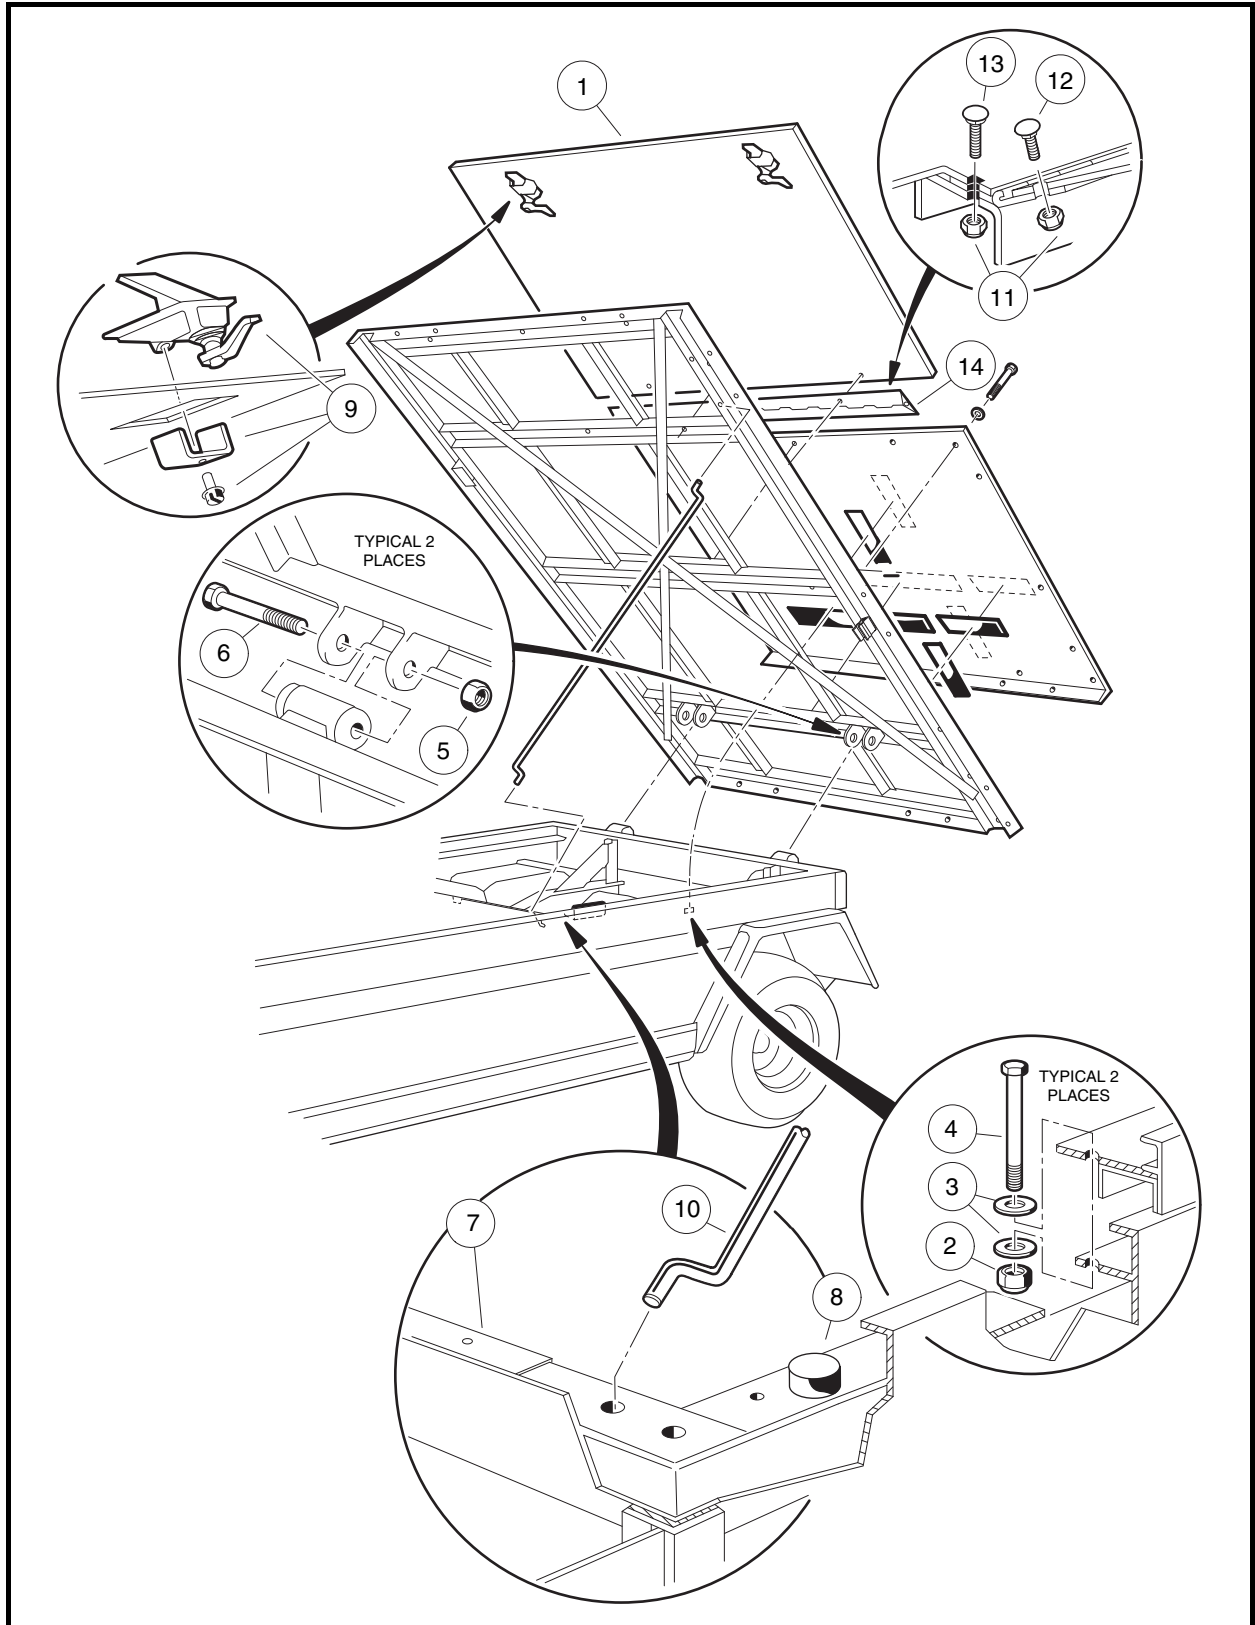
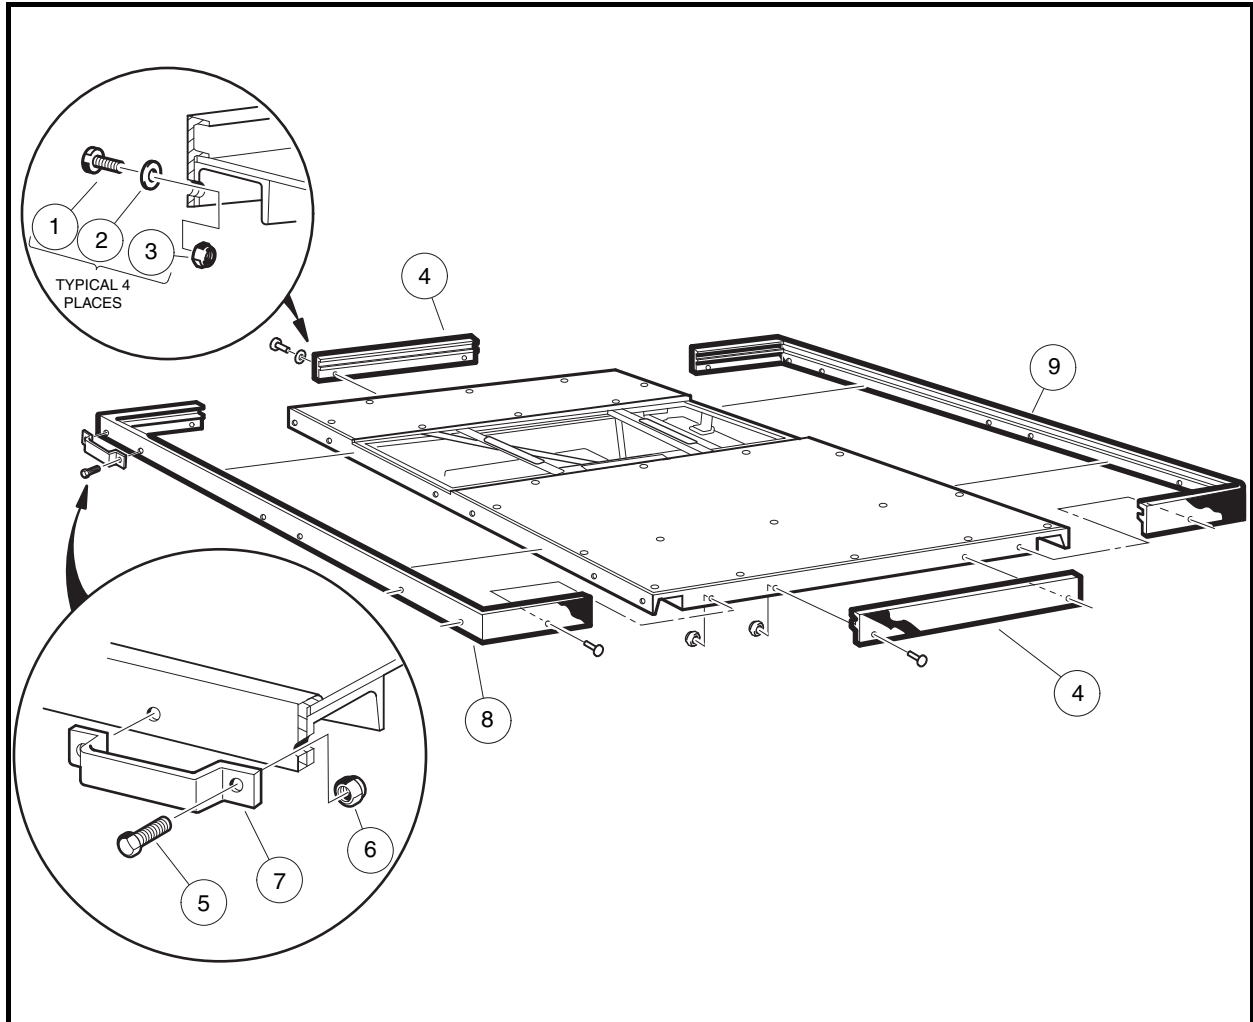

Figure 4-3 Flat Bed – Turf 6 and Carryall 6
Figure 4-4 Flat Bed Trim – Turf 6 and Carryall 6
1. Open access door in bed (1) and remove two lock nuts (2), four flat washers (3), and two 1/4 x 4 bolts (4). Close and latch access door (**Figure 4-3, Page 4-9**).
2. Remove two lock nuts (5) from left and right flat bed hinge assemblies.
3. Remove two 3/8 x 3 -3/8 bolts (6). Lift bed from vehicle.
1. Place bed on vehicle with bed front edge 1 inch (2.5 cm) from seat back support panel (7) and open access door (1) (**Figure 4-3, Page 4-9**).
2. Raise rear edge of bed 6 inches from vehicle frame and position bed so the left and right hand bed supports are resting on the support bumpers (8).
4. Start the bolts (6) into left and right hinge assemblies. It may be necessary to use an alignment tool to align holes in hinge bracket with steel bushing in hinge assembly.
5. Install a nylon lock nut (5) on each bolt and tighten to 14 ft-lb (18.9 N·m).
6. Install 1/4 x 4 bolts (4), flat washers (3), and lock nuts (2) through the bed frame and vehicle frame on both sides of vehicle. Tighten to 75 in-lb (8 N·m) (**Figure 4-3, Page 4-9**).
7. Close access door (1) and secure with latches (9).
1. Release access door latches (9) and open access door (1) (**Figure 4-3, Page 4-9**).
2. Remove bolts (4), flat washers (3), and lock nuts (2) that secure bed to vehicle frame.
3. Raise bed and place prop rod (10) in bed support frame.
4. Remove four bolts (1), flat washers (2), and lock nuts (3) from trim strips (4) on front and rear edge of bed (**Figure 4-4, Page 4-11**). Remove trim strips from bed.
5. Remove two bolts (5) and lock nuts (6) from the bracket (7) on driver-side trim strip (8). Remove bracket from bed.
7. Repeat previous two steps to remove passenger side trim strip (9) and brackets.
2. Tighten nuts (3 and 6) to 8 ft-lb. (10.8 N·m) (**Figure 4-4, Page 4-11**).
1. Raise levers on left and right hand door latches (9), rotate them 180 degrees and open access door (1) (Figure 4-3, Page 4-9).
2. Remove three lock nuts (11) and bolts (12) from access door side of hinge (14).
3. Remove access door (1) from cargo bed.
1. Install access door (1) in the reverse order of removal (Figure 4-3, Page 4-9).
2. Tighten nuts (11) to 8 ft-lb (10.8 N·m).
3. Close access door (1) and secure both door latches (9).